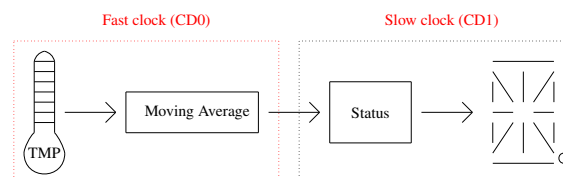

Figure 1: Process pipeline
In this task, you will create a small process pipeline that reads the temperature from a model of an 8-bit signed temperature sensor, calculates the average of the last three measurements and passes this to a status process. The model of the temperature sensor outputs a new random temperature value each time the `sample_in` signal changes. The status process reacts to the measured temperature and outputs it on a 14-segment display (14SA) 1. An overview of the pipeline can be seen in Figure 1.
- (f) Create the illustrated process pipeline from Figure 1 taking into account the specifications mentioned above. Add the synthesizable parts (all non-testbench and non-model files) of your pipeline to the correct variable in the Makefile and synthesise (`make synthesis` your design with `USE_CDC=0`). Simulate the design for 1000ns. *Note:* You will learn what this kind of synthesis (called RTL-Synthesis) is doing later in the lecture. For interested students: A RTL-Synthesis translates the hardware independent netlist (your design) into a hardware dependent design. The output file after synthesis (located in the `/synthesis` directory where your Makefile is) will look significantly different than before.